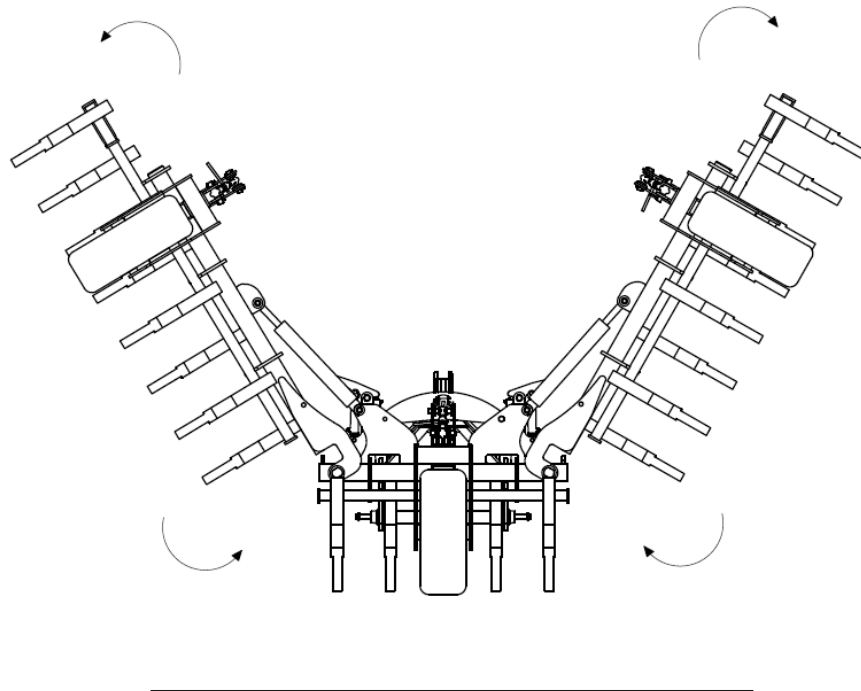

Fig. 6 Implement opening sequence: open the implement paying particular attention to the height of the arm ends from the ground.
- When opening the implement's side extension arms, make sure that the ends of the arms are at the correct height to prevent them from snagging on the ground (Fig. 6).